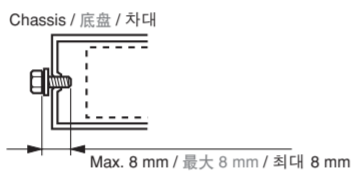

Figure 3 / 圖 3 / 그림 3
4. Use the enclosed screws for installation. Using other screws can cause damage. (Figure 3)
4. 请使用附带的螺丝进行安装。使用其他螺丝可能引起故障。(图3)